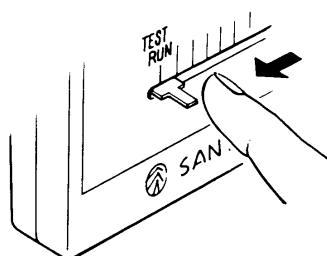

Fig. 39
- b) Set the thermostat lever to the TEST RUN position. Fig. 39